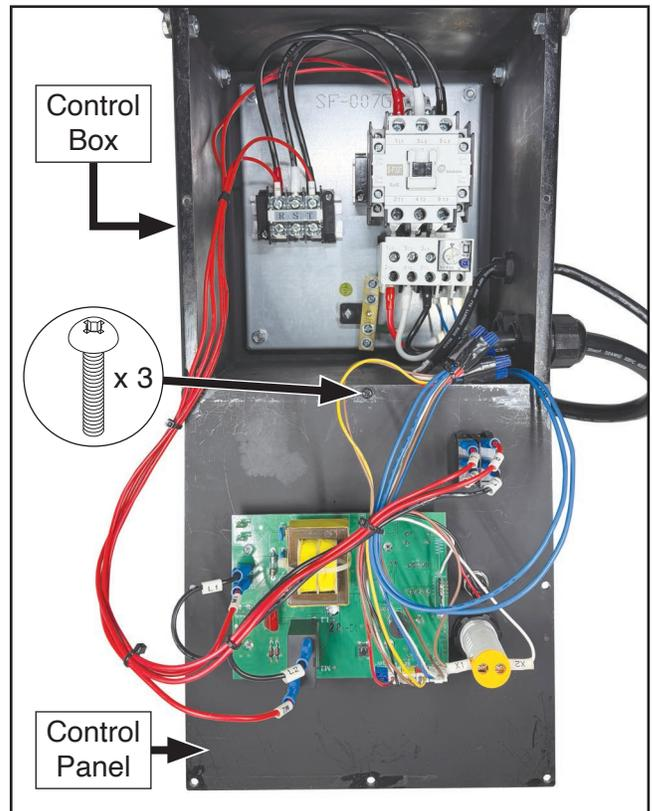

Figure 8. Control panel secured for 440V conversion.
3. Lower and tilt control panel so wiring is facing you, then secure panel to control box with (3) fasteners removed in **Step 2** (see **Figure 8**).